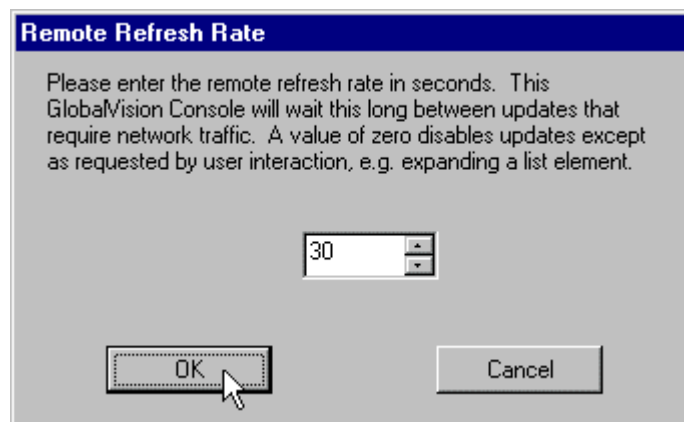

Figure 82 - Remote Refresh Rate dialog box
2. Click on **OK** to finish. See Figure 82.